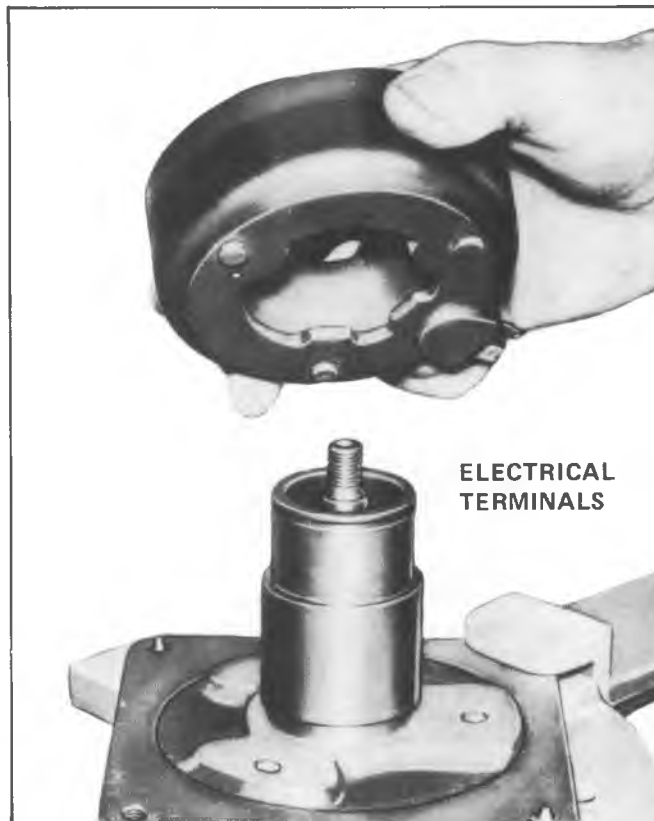

Fig. 17—Installing Coil Housing
1. Position coil and housing assembly on compressor front head casting so that electrical terminals line up with marks previously scribed on compressor (Fig. 17).